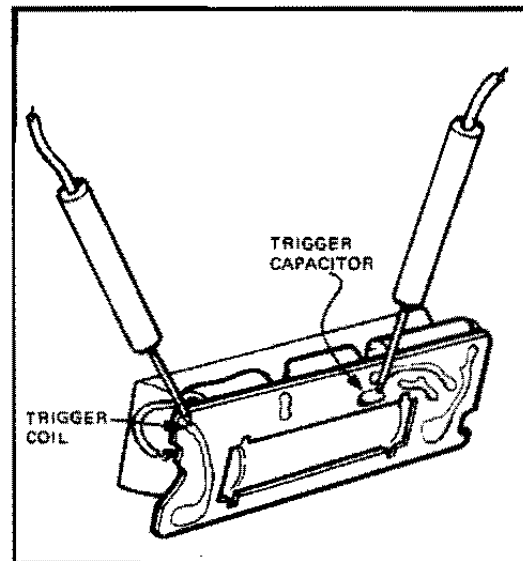

FIG. 3-5 TRACING THE TRIGGER CIRCUIT
- e. With a VOM (or comparable meter) set up as shown in Figure 3-5, place the probes on the two points shown in the illustration.